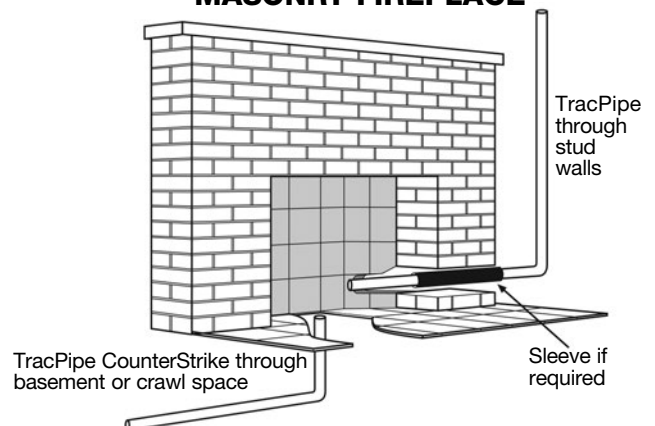

Figure: 4-41
6. The FGP-FPT may be used in all applications where it is desirable not to penetrate the enclosure with tubing. Figure: 4-41.